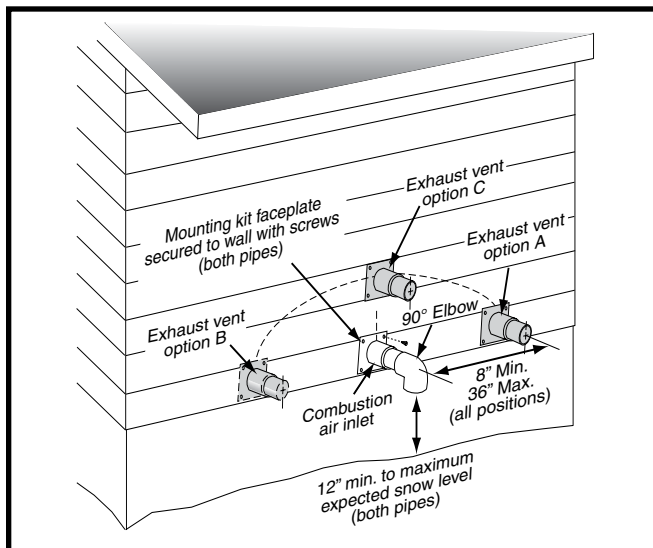
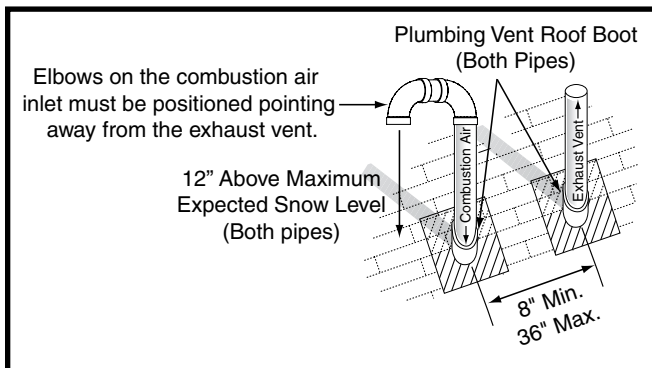

Figure 7. Inlet & Exhaust Pipe Clearances
Figure 10. Vertical Vent Termination
- The combustion air intake and the vent exhaust must be located in the same atmospheric pressure zone. This means both pipes must exit the building through the same portion of exterior wall or roof as shown in Figure 7 (page 11), Figure 8, Figure 9 (page 12), & Figure 10.
Vent and combustion air intake terminations shall be installed as depicted in Figure 7, Figure 8, and in accordance with these instructions:
- When the vent pipe must exit an exterior wall close to the grade or expected snow level where it is not possible to obtain clearances shown in Figure 7, a riser may be provided as shown in Figure 9 \(page 12\). Insulation is required to prevent freezing of this section of pipe. For vent freezing protection, see page 12.
- The combustion air inlet pipe must have a 90 degree termination elbow, and pointed downwards as shown in Figure 7 \(page 11\).
Termination spacing requirements from the roof and from each other are shown in Figure 10.
- The termination clearances shown in Figure 10 are maintained.